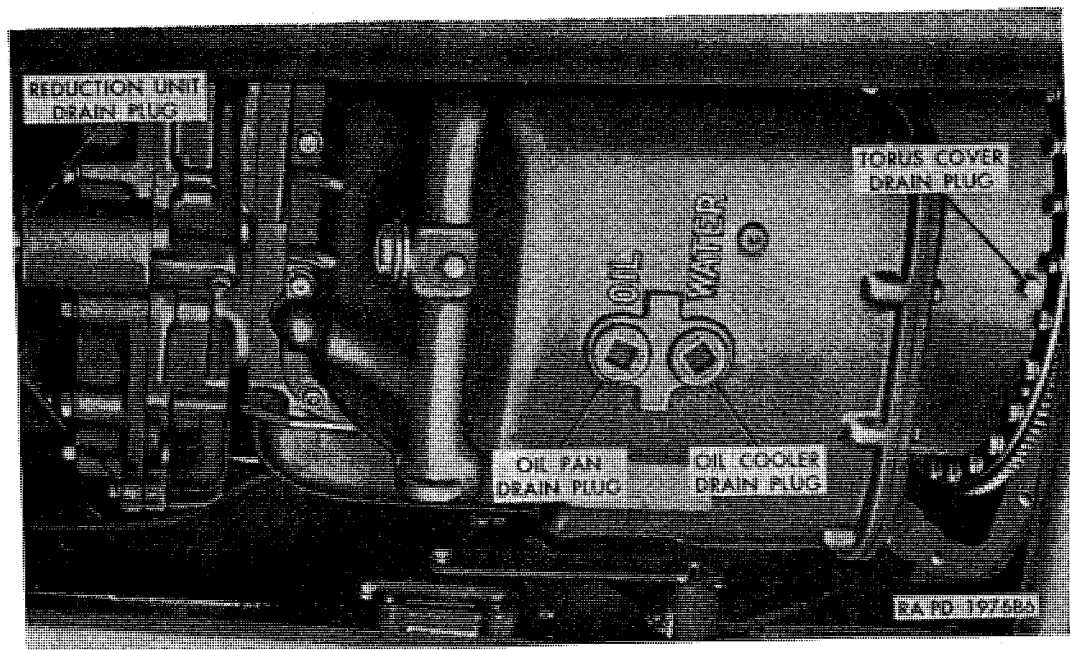

Figure 186. Transmission oil and water drain plugs installed—flywheel housing cover removed.
d. Draining Transmission Oil (fig. 186).
- (1) *Drain fluid coupling.* Remove eight cap screws and lockwashers attaching flywheel housing cover to flywheel housing; then remove cover. Turn engine flywheel until torus cover drain plug is at lowest point; then remove torus cover drain plug. Discard plug gasket.
- (2) *Drain oil pan.* Remove transmission oil pan drain plug from bottom of oil pan. Discard plug gasket.
- (1) Check for loose oil pan to transmission case attaching cap screws and nuts. If found loose, tighten cap screws and nuts to 10 to 13 pound-feet torque. If leakage at this point continues, cause may be defective oil-pan-to-transmission-case gasket. Replace gasket as in (a) through (f) below.
- (a) Remove drain plug at bottom of transmission oil pan marked WATER and drain water from transmission oil cooler in oil pan. Refer to figure 186.
- (b) Remove magnetic oil pan drain plug from transmission oil pan (plug is marked OIL) and drain oil from transmission oil pan into a clean receptacle. Refer to figure 186.
- (2) If leakage is found at transmission oil pan drain plug, check to see if plug is loose. Tighten plug to 35 to 45 pound-feet torque. If leakage continues, remove drain plug and gasket from oil pan. Discard gasket. Install new gasket on drain plug; then install plug in oil pan. Tighten plug to 35 to 45 pound-feet torque.